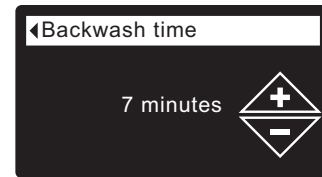

FIG. 131
- 8a. **Backwash time:** Press the UP (▲) or DOWN (▼) buttons to change the backwash time. Hold the button down to rapidly advance. The backwash time can be set from 1 to 30 minutes* (See Figure 131).